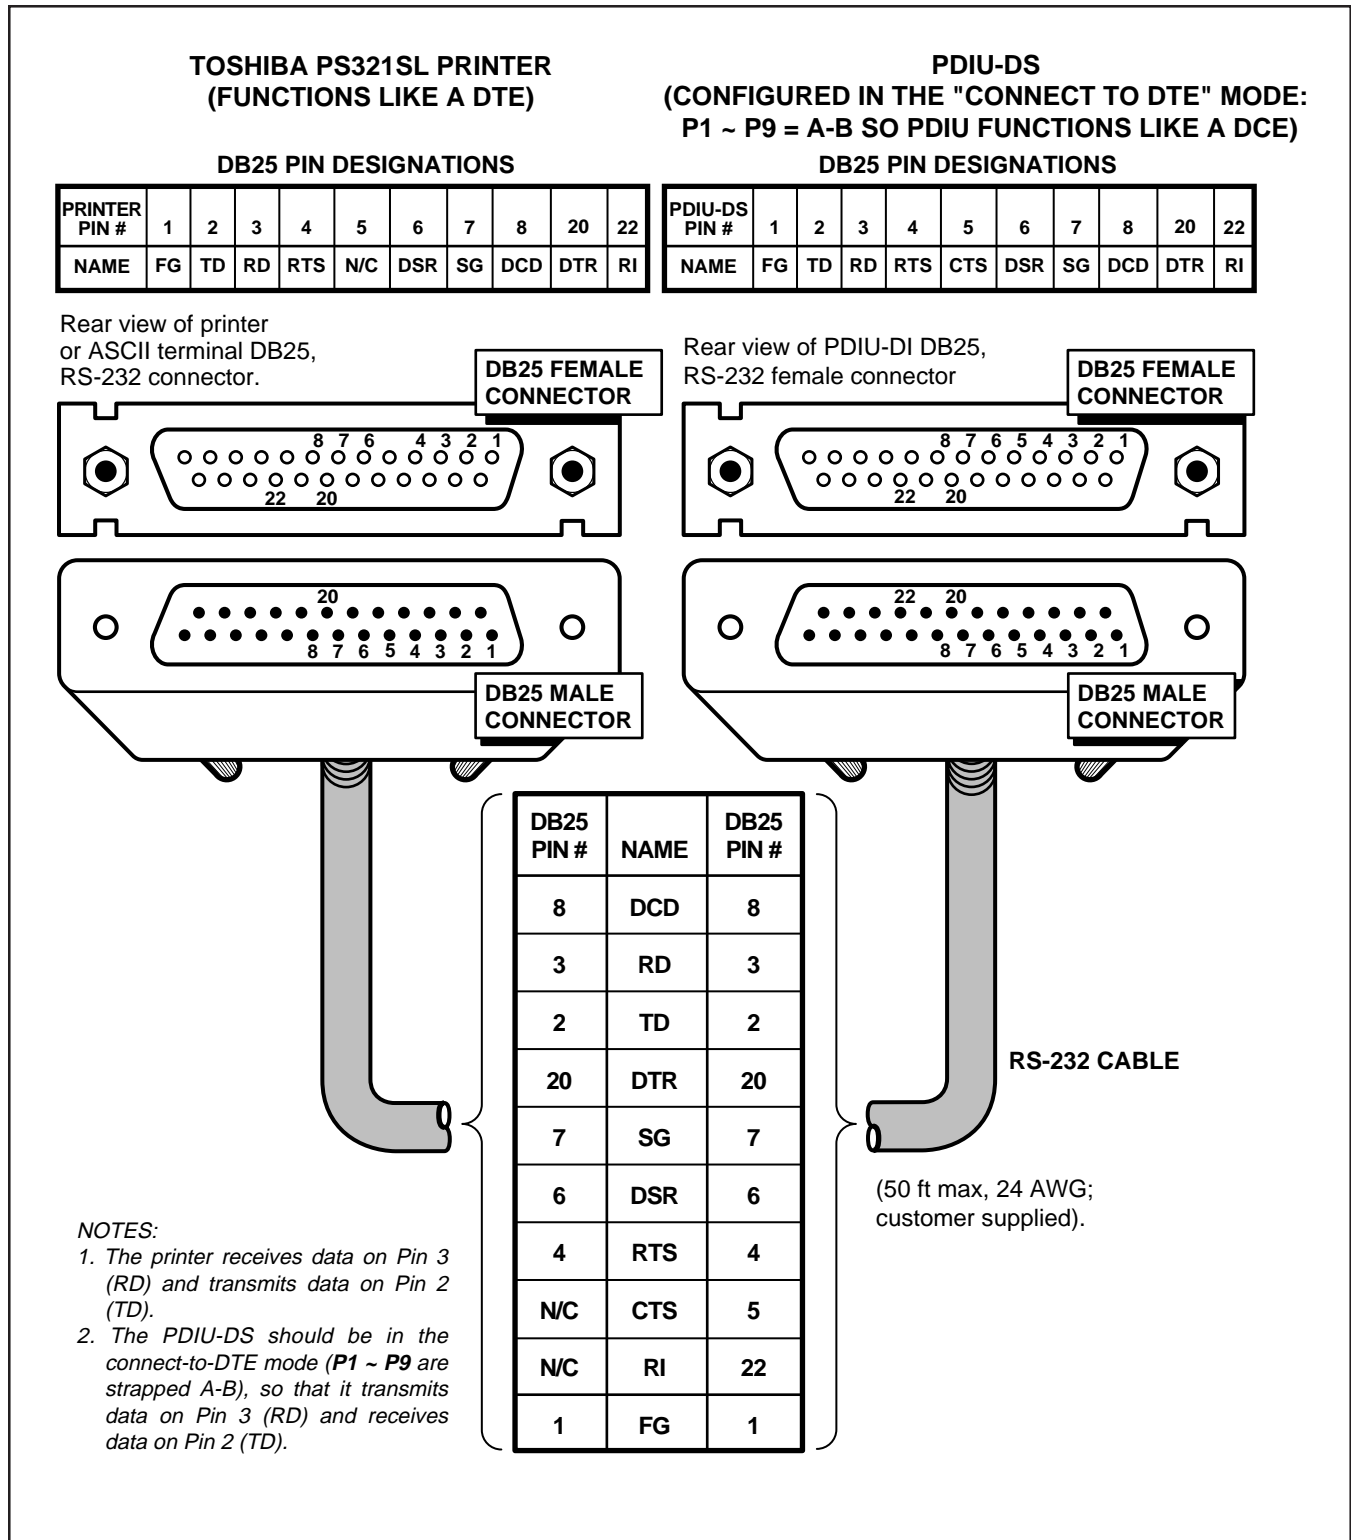

FIGURE 7-27
- 3) Connect the appropriate RS-232 cable between the printer and the PDIU-DS (see Figure 7-27 and 7-29 for an example printer cable connection).